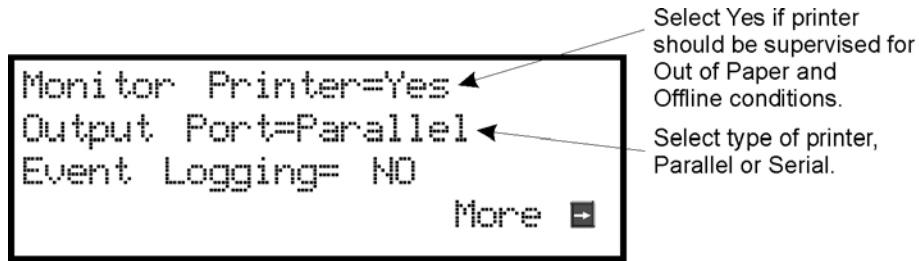

Figure 4-32 Selecting Printer and Output Port Options
5. Press ENTER to bypass the next two screens. A screen similar to the one shown in Figure 4-32 will display.